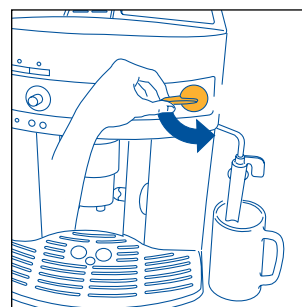

Fig.5
3. **IMMEDIATELY AFTER, WITHIN A MAXIMUM OF 30 SECONDS**, turn the steam knob anticlockwise until it stops (Fig.5) (it is normal for the machine to make some noise).
- Turn the steam knob half a turn in anticlockwise until it stops (Fig. 5): hot water will come out of the milk frother and start to fill the container underneath.
- Release a little steam for a few seconds by turning the steam knob anticlockwise until it stops (Fig. 5).